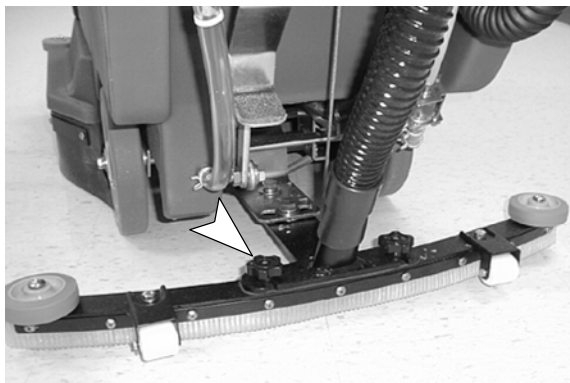

FIG. 4
2. Loosen two thumb knobs on squeegee and slide squeegee into slots at rear of squeegee mount bracket. Be certain that squeegee roller wheels are toward the rear (Figure 4).